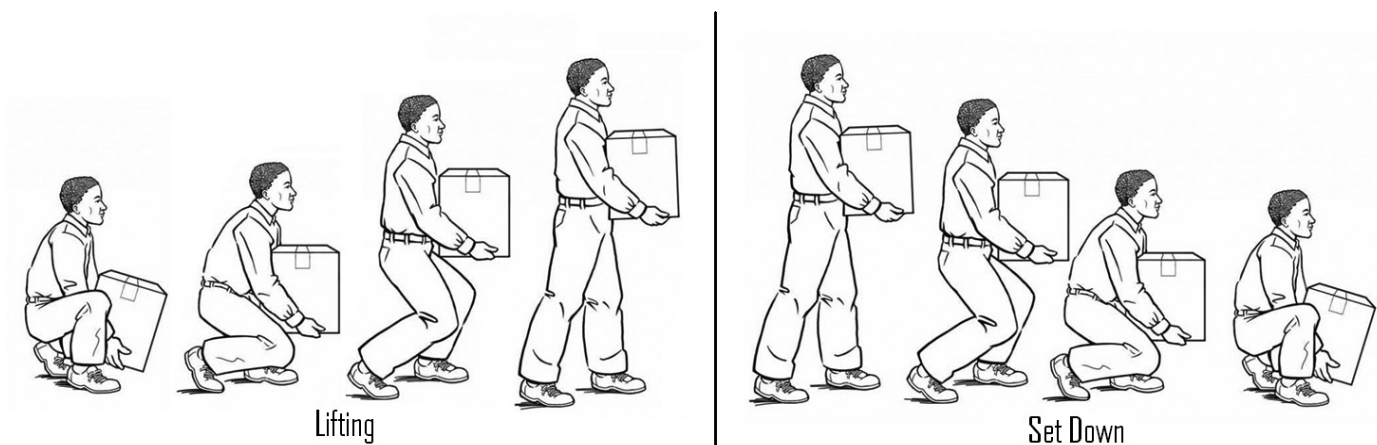

Figure 1
- When lifting and carrying, always keep the pump close to your body. (See Figure 1)
- When starting the lift, bend your knees and keep your back straight. (See Figure 1) Tightening the stomach muscles will help keep your back straight.
- During the lift, use your legs to do the work. Never use your back and make sure your legs are at least shoulder-width apart. (See Figure 1)